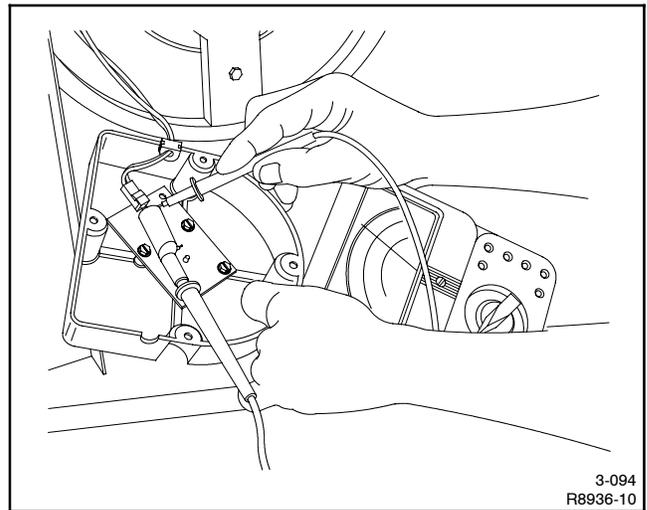

Figure 3-5 Checking LED Board
5. With the generator set running, approximately 1–2 volts DC should be observed at 3B (+) and 5B (-) at the LED board. See Figure 3-5. Shine the flashlight on the photo transistor. The DC voltage reading should drop, showing the AVR is functioning. If voltages are not observed, refer to the AVR test. Stop the generator set.